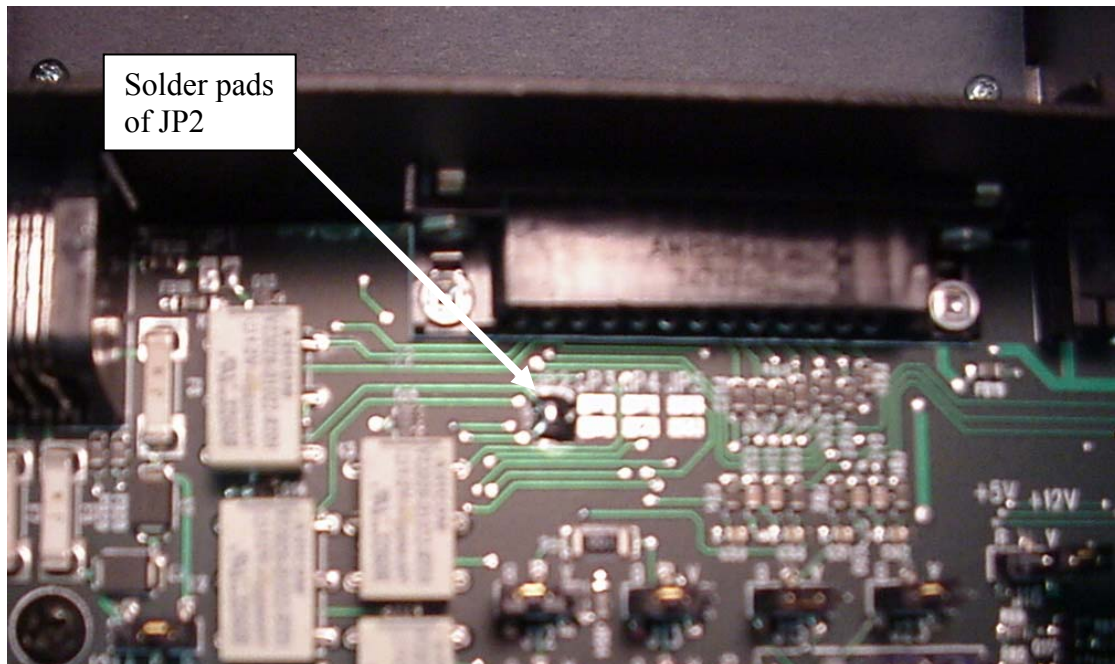

Figure 4 – JP2 location.
5. Solder JP 2 closed. See Figure 4.